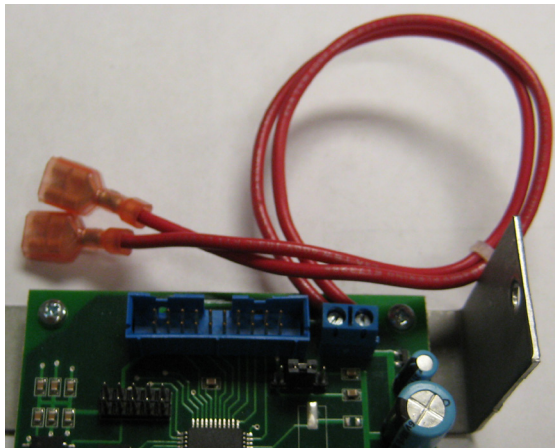

Figure 5: Thermostat connection wires.
2. Connect the Thermostat or Timer to the thermostat wires on the unit. (Fig. 5)